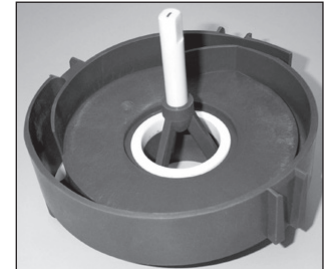

Figure 19
9. Pull the inner volute straight off. Be careful, the impeller shaft may come out with the inner volute. See figure 19. Inspect inner volute for signs of wear or damage. Look for signs of rubbing or cracking on the ring or damage to the front shaft support.